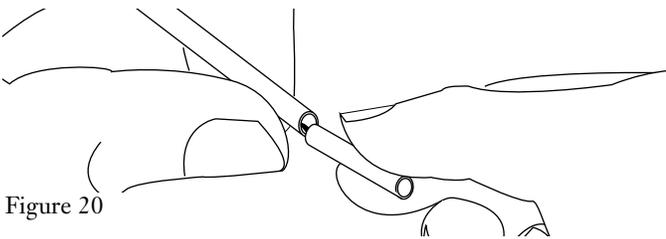

Figure 20
- Carefully flex the tube to break it at the score point. The break should be clean and free of rough edges (Figure 20). Carefully slide the severed section of buffer tube off of the fibers.